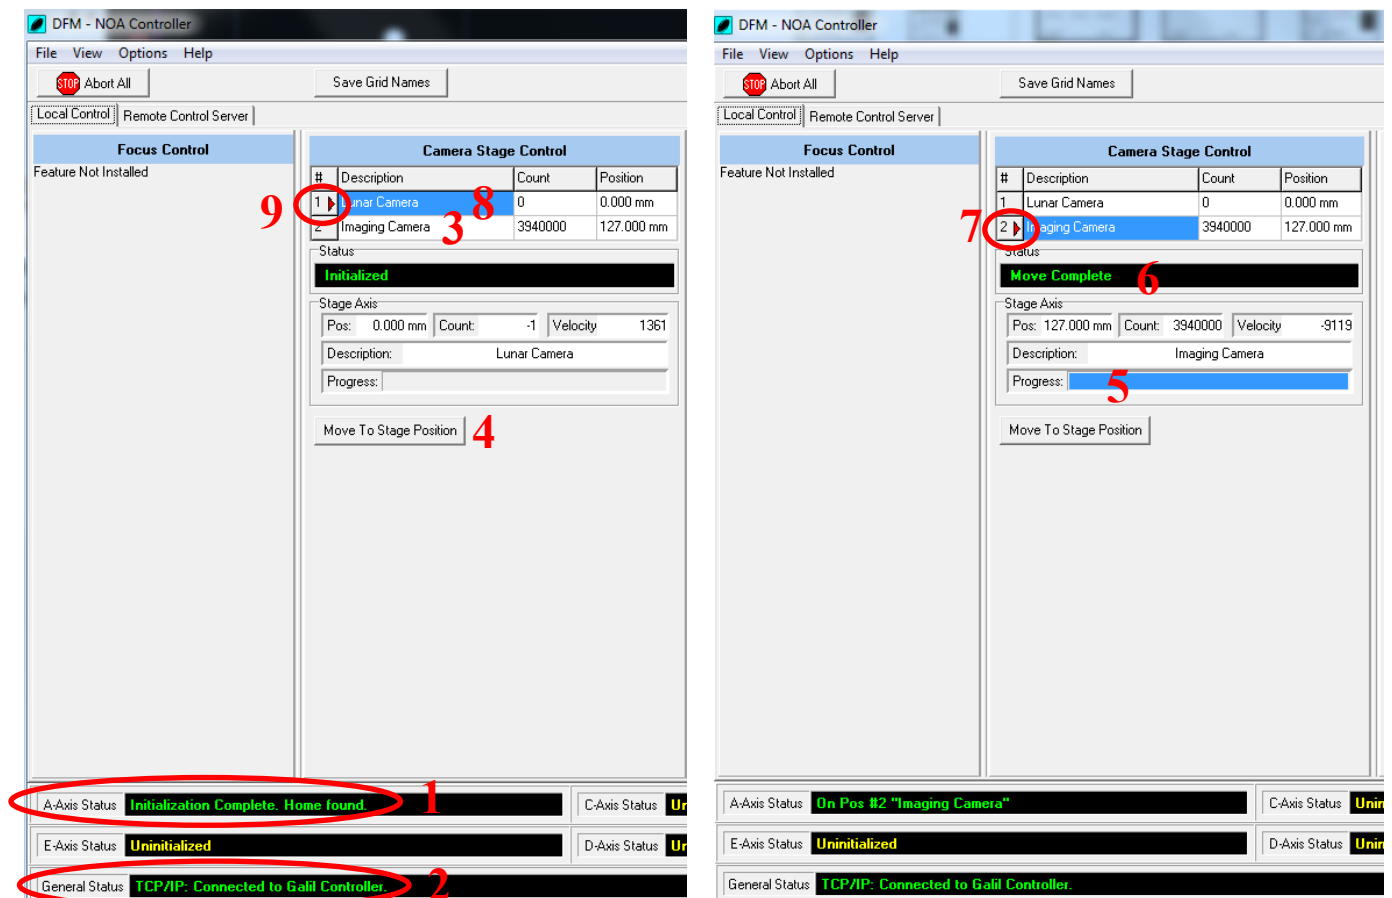

Fig. 4.1. Initializing the CSS (left) and selecting the science CCD (Imaging Camera) position (right).
1. Open the “DFM – NOA controller” software, and wait to initialize by moving the CSS on its home position. The A-Axis status (Fig. 4.1 No 1) should display “*Initialization complete_home found*” and the General status “*TCP/IP: Connected to Galil controller*” (No 2). If not, restart the software (this might be repeated 3-4 times).
1. In the “DFM – NOA controller” software, click on the “Lunar Camera” (Fig. 4.1 No 8) and then click on the button “Move To Stage Position” (No 4). Wait (approx. 20 sec) until it reaches its position (the progress bar is filling—No 5). The message “*Move Complete*” (No 6) appears when it does and the red arrow showing the current CCS position is moved to the “Lunar Camera” (No 9).